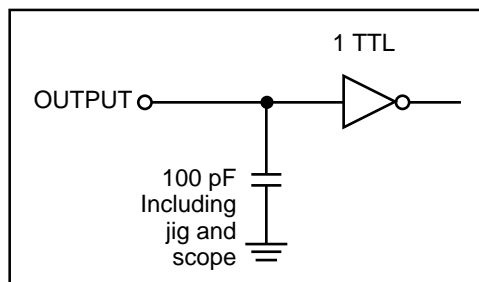

Figure 1
1. Test conditions assume signal transition times of 5 ns or less, timing reference levels of 1.5V, input pulse levels of 0.4V to 2.2V and output loading specified in Figure 1.
Output Load	See Figures 1 and 2